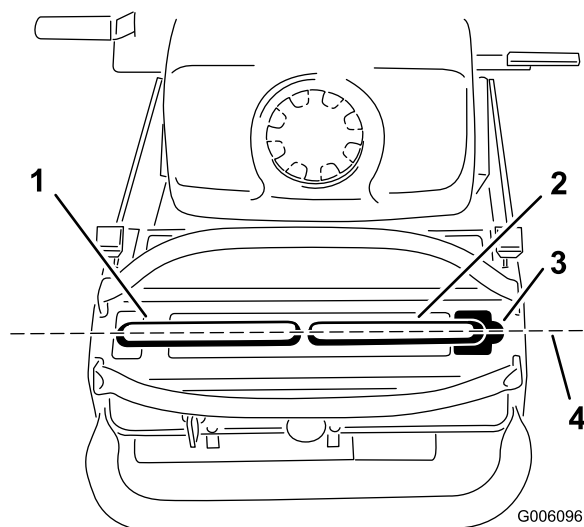

Figure 54
Important: Ensure the tracking of the mower is correct after adjusting the motion control levers. After adjusting the tracking, the motion control levers may not align the exactly front to back (Figure 54).
1. After the horizontal alignment is finished, check the front to back alignment (Figure 54).